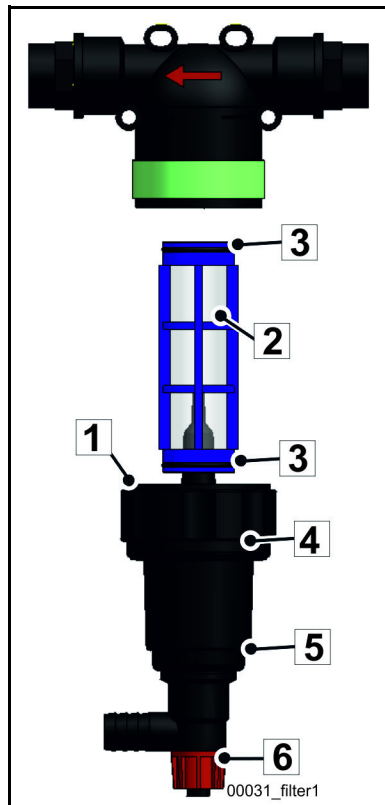

Fig. 439 Suction filter
- Loosen the housing (5) (**Fig. 439**) by hand.
- Remove the screen (2) (**Fig. 439**) from the housing of the suction filter.
- Check and replace the O-rings (1+3) (**Fig. 439**), if necessary.
Caption for suction filter (Fig. 439)